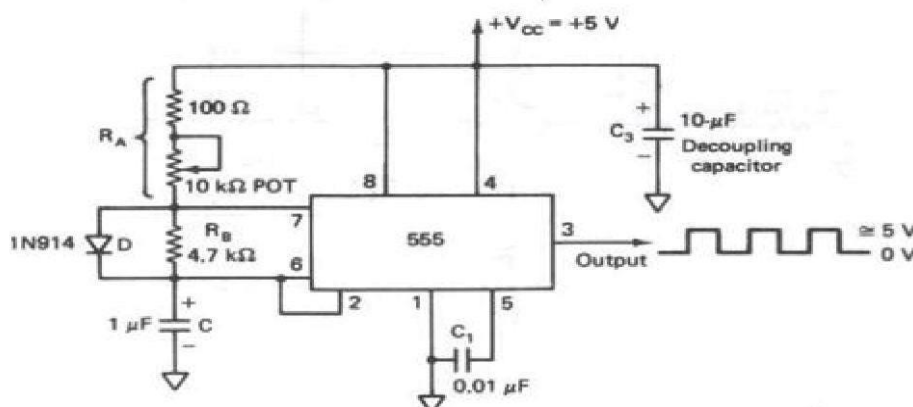

Fig 2.10: Astable Multivibrator as a Square wave generator
Figure 2.10 shows the phase-locked loop (PLL) in its basic form. As illustrated in this figure, the phase-locked loop consists of (1) a phase detector, (2) a low-pass filter, and, (3) a voltage controlled oscillator